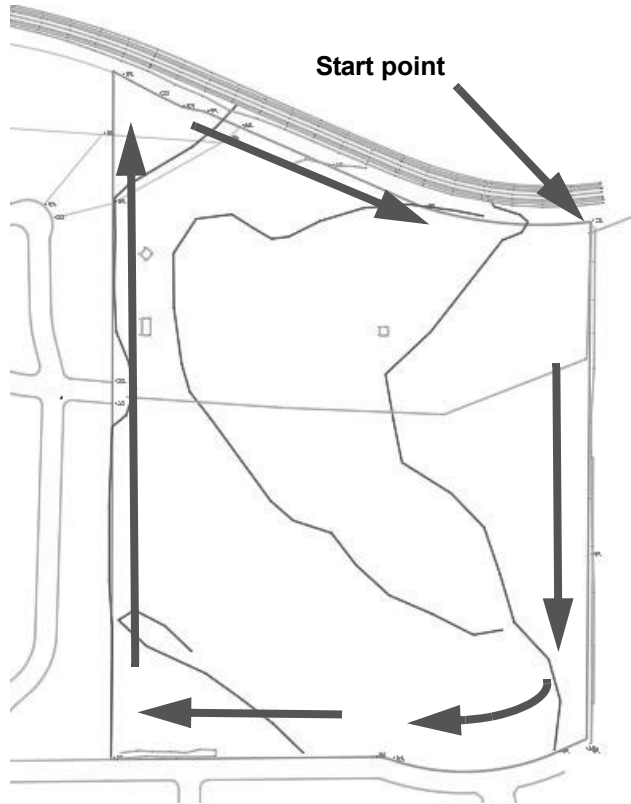

Figure 2–104
- In effect, you will be tracing over the green perimeter in the drawing, using the legal information provided, as shown in Figure 2–104.